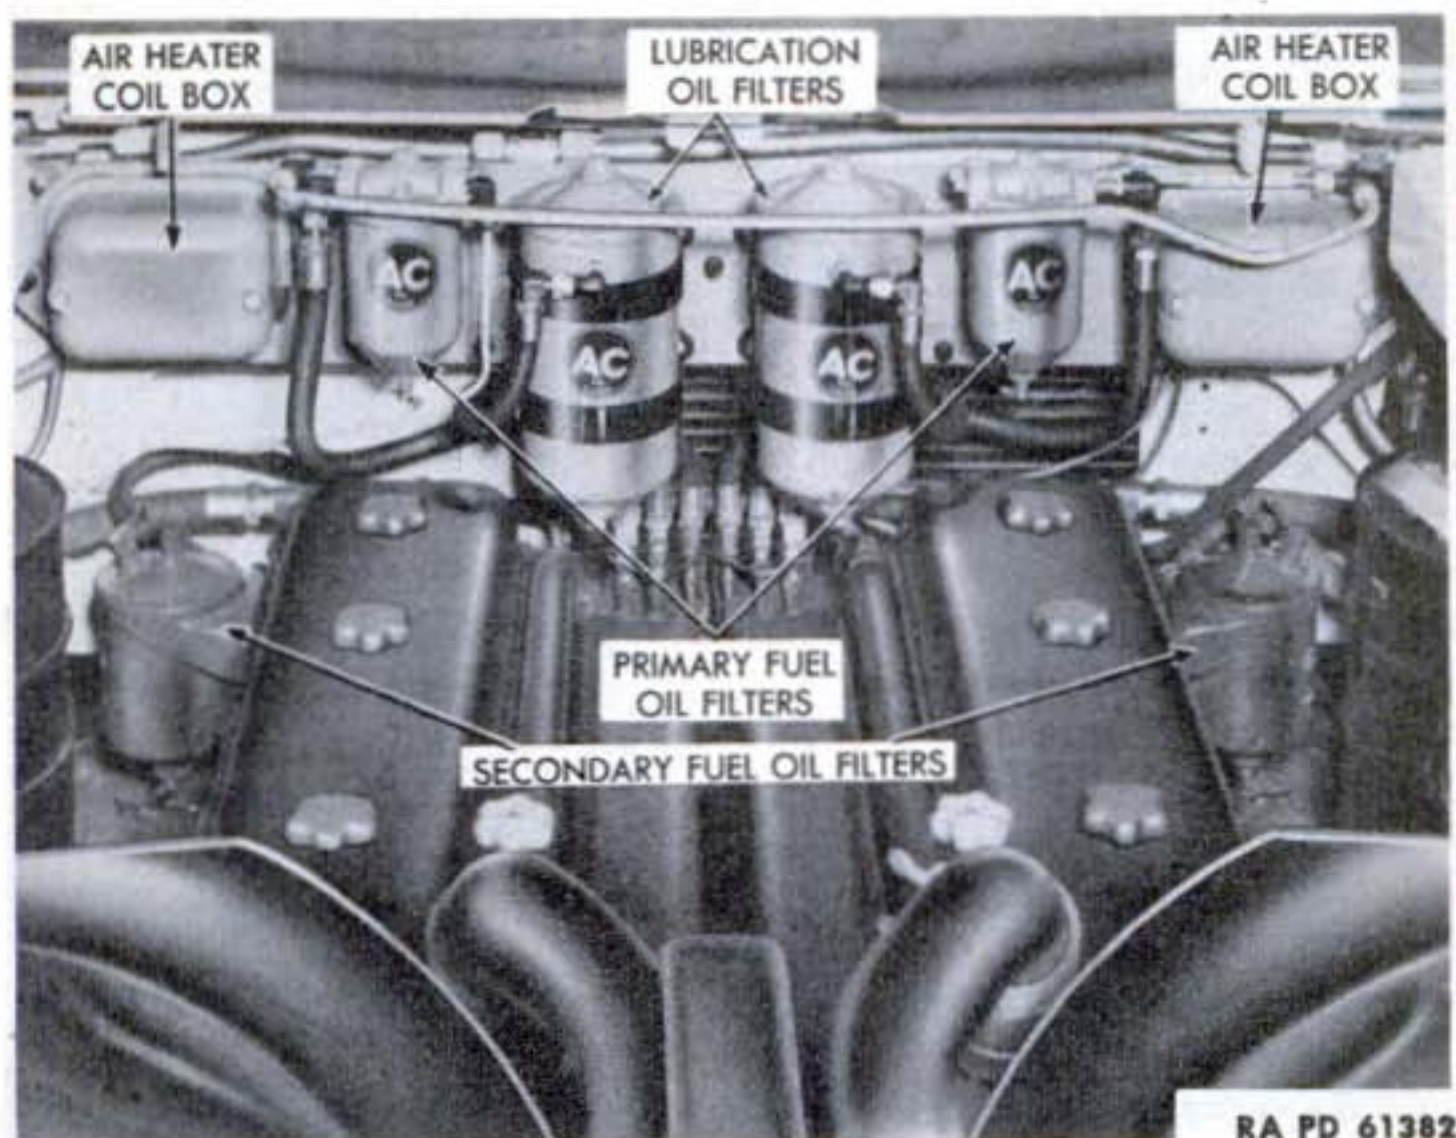

Figure 69—Filter Panel Assembly
a. **Description.** The filter panel assembly (fig. 69) is bolted to the rear side of the engine compartment bulkhead. It consists of a panel on which are mounted the engine lubricating oil filter, the primary fuel filter, the air heater ignition coils, and auxiliary starter button for each of the two engines.